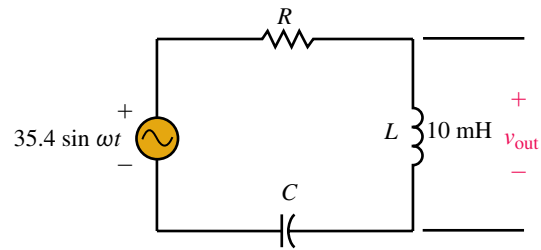

FIGURE 21-57
13. Consider the circuit of Figure 21-57.